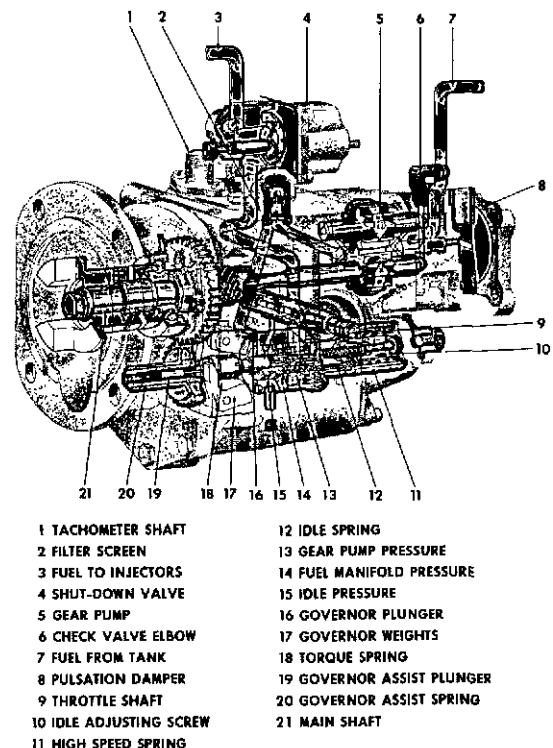

Fig. 1-2, FWC-31. PT (type G) fuel pump cross section/fuel flow
3. Throttle, which provides a manual control of fuel flow to injectors under all conditions in operating range. The location of fuel pump components is indicated in Fig. 1-2.
Gear pump and pulsation damper are located at rear of fuel pump (rear being end farthest from drive coupling). Fig. 1-2.
Gear pump is driven by pump main shaft and contains a single set of gears to pick up and deliver fuel throughout fuel system. A pulsation damper mounted to gear pump contains a steel diaphragm which absorbs pulsations and smoothes fuel flow through fuel system. From gear pump, fuel flows through filter screen and to governor assembly as shown in Fig. 1-2.